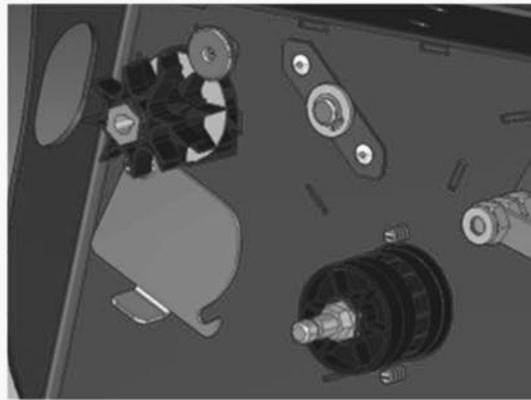

Figure 29
- Turn the spare shaft by 180° and stow in the seeding shaft holder (Figure 29).